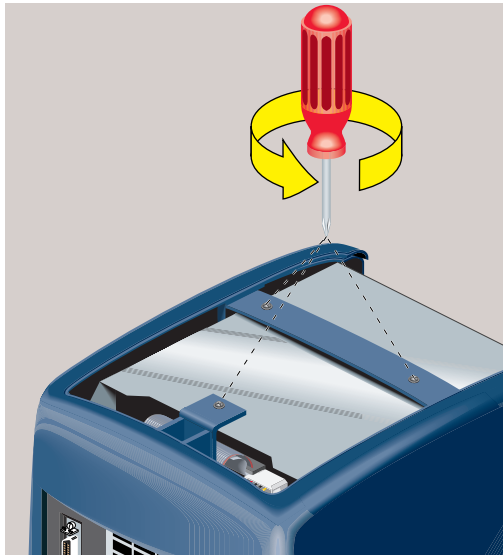

Figure 5-48 Removing the Three Phillips Screws
6. Use a Phillips screwdriver to remove the three screws that secure the outer cover (Figure 5-48).